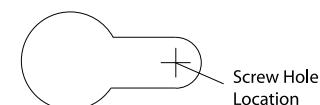

Figure 7
Voir la Figure 7.
3. Position the fixture against the mounting surface. Rotate cover out of the way and mark the screw hole locations. **See Fig 7.**